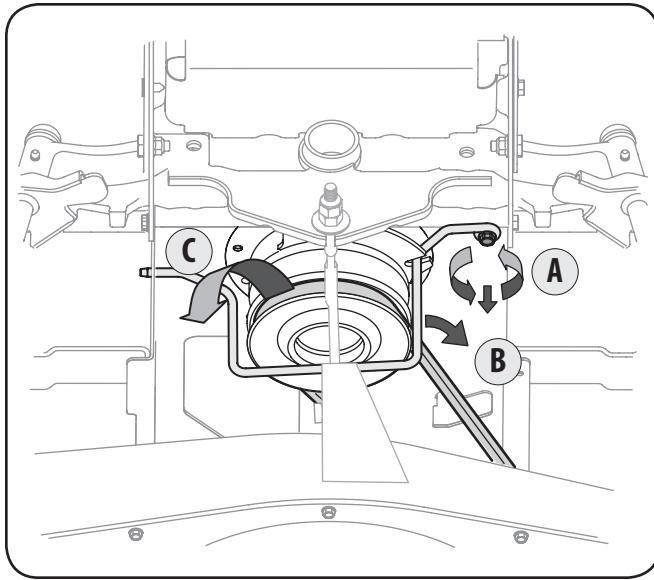

Figure 7-1
3. Locate the PTO clutch under the front of your tractor. See Fig. 7-1.
4. Remove the belt guard and belt as follows Refer to Fig. 7-1: